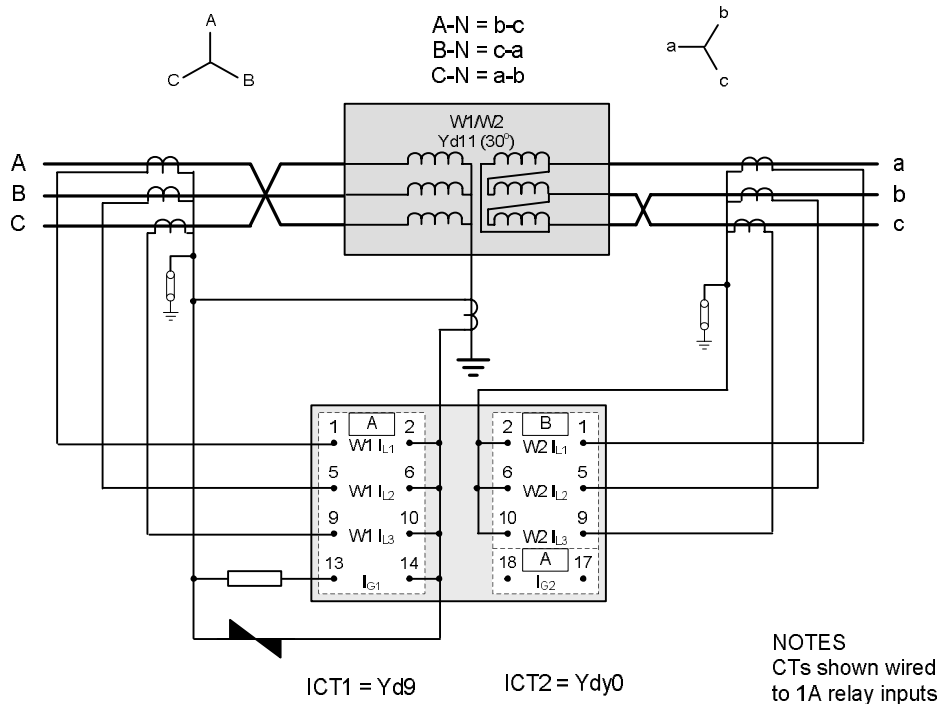

Fig. 6-6 AC Connections: Yd9, 90° Transformer – Standard Secondary Connections
**Fig. 6-6** shows use of the ICT Connection settings to correct for the phase shift introduced by the transformer connection i.e. **ICT1 Connection** is set to Yd9, -90° and **ICT2 Connection** is set to Ydy0, 0°.